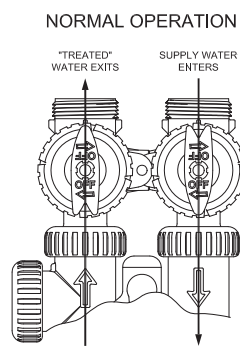

FIGURE 3
Open the outlet valve of the softener, or if using optional bypass place to **NORMAL OPERATION MODE** (**figure 3**).
- 1. Normal Operation Position:** The inlet and outlet handles point in the direction of flow indicated by the engraved arrows on the control valve. Water flows through the control valve during normal operation and this position also allows the control valve to isolate the media bed during the regeneration cycle. (See Figure 3)